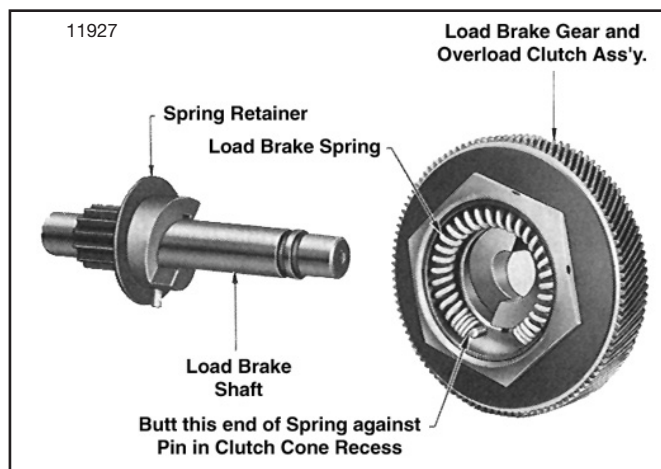

Figure 7-24. Load Brake Gear and Overload Clutch Assembly Removed from Load Brake Shaft Showing Brake Spring Installed in Clutch Cone
(3) Remove load brake gear and overload clutch assembly from output pinion shaft. Pull the spring from its recess in clutch cone (fig. 7-24) but do not further disassemble gear and clutch assembly. See **NOTE** below.
**NOTE:** Disassembly of the load brake gear and overload clutch assembly (fig. 7-24) is not recommended. Clutch pressure is preset by the factory at assembly to provide the correct torque to allow the clutch to refuse loads within a specified range (150% of rated load to 200% rated load). It is suggested whenever there is a need to repair or readjust the gear and clutch assembly that it be sent to an authorized **CM** Hoist Repair Station where adequate tools, fixtures and appropriate test equipment is available.
(1) Before assembly, all parts should be cleaned and inspected to determine their serviceability. Replace parts that are worn or damaged.
(2) Reassemble load brake parts following a reverse procedure of the disassembly steps listed above, observing the assembly steps (3) through (6) below.
(3) Before installing spring in its recess in center of clutch cone (fig. 7-24) apply a good grade of ball bearing grease to inside of recess. Spring must be positioned exactly as illustrated, abutted against pin.